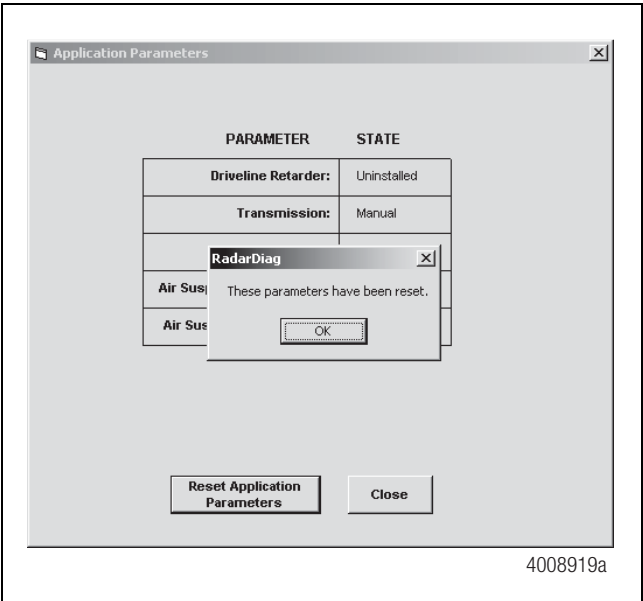
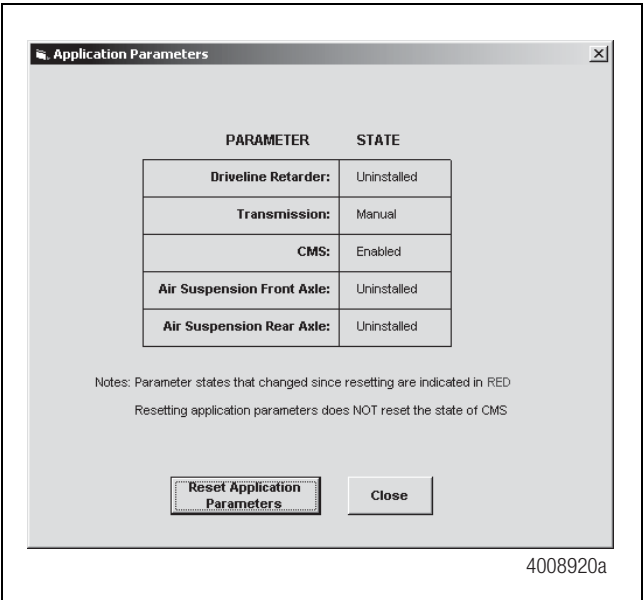

Figure 2.22
Figure 2.23
5. If the radar software version is USO 2.XXXX, a message will be displayed to show that the parameters have been changed. Figure 2.22. Note that changed parameters are shown in red and the state of CMS cannot be changed. Figure 2.23.